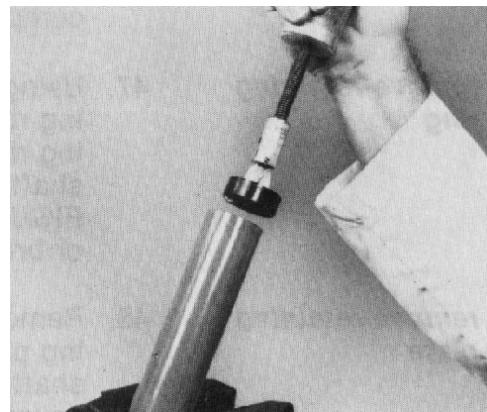

Figure 61
49. Use a bearing puller to remove the bushing (Fig. 61).